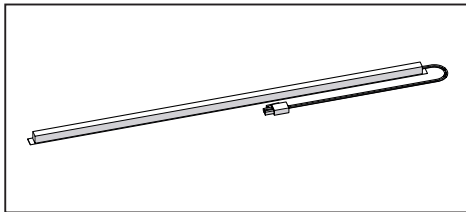

Fig.15
• **Replacing LED lamps (Fig.15):**